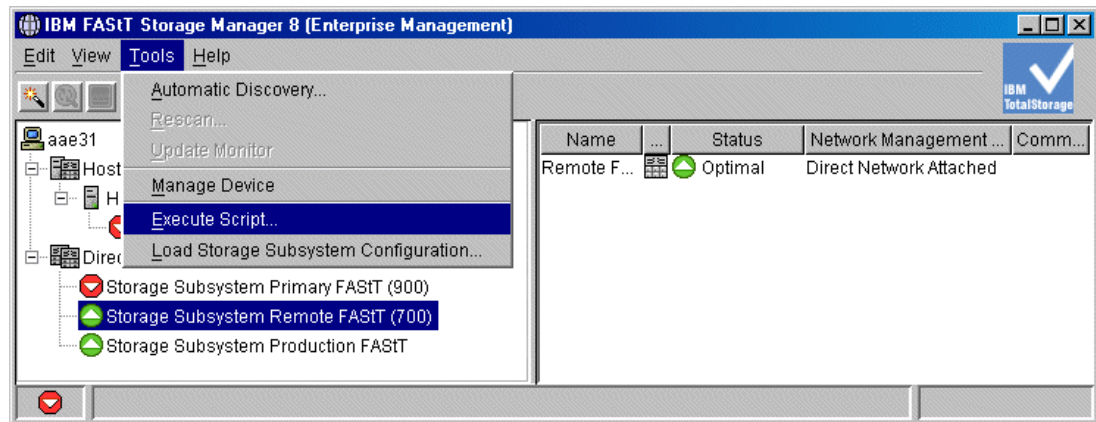

Figure 10-1 Starting the Script Editor
2. Click **Tools** -> **Execute Script** as shown in Figure 10-1, or right-click and select **Execute Script**.